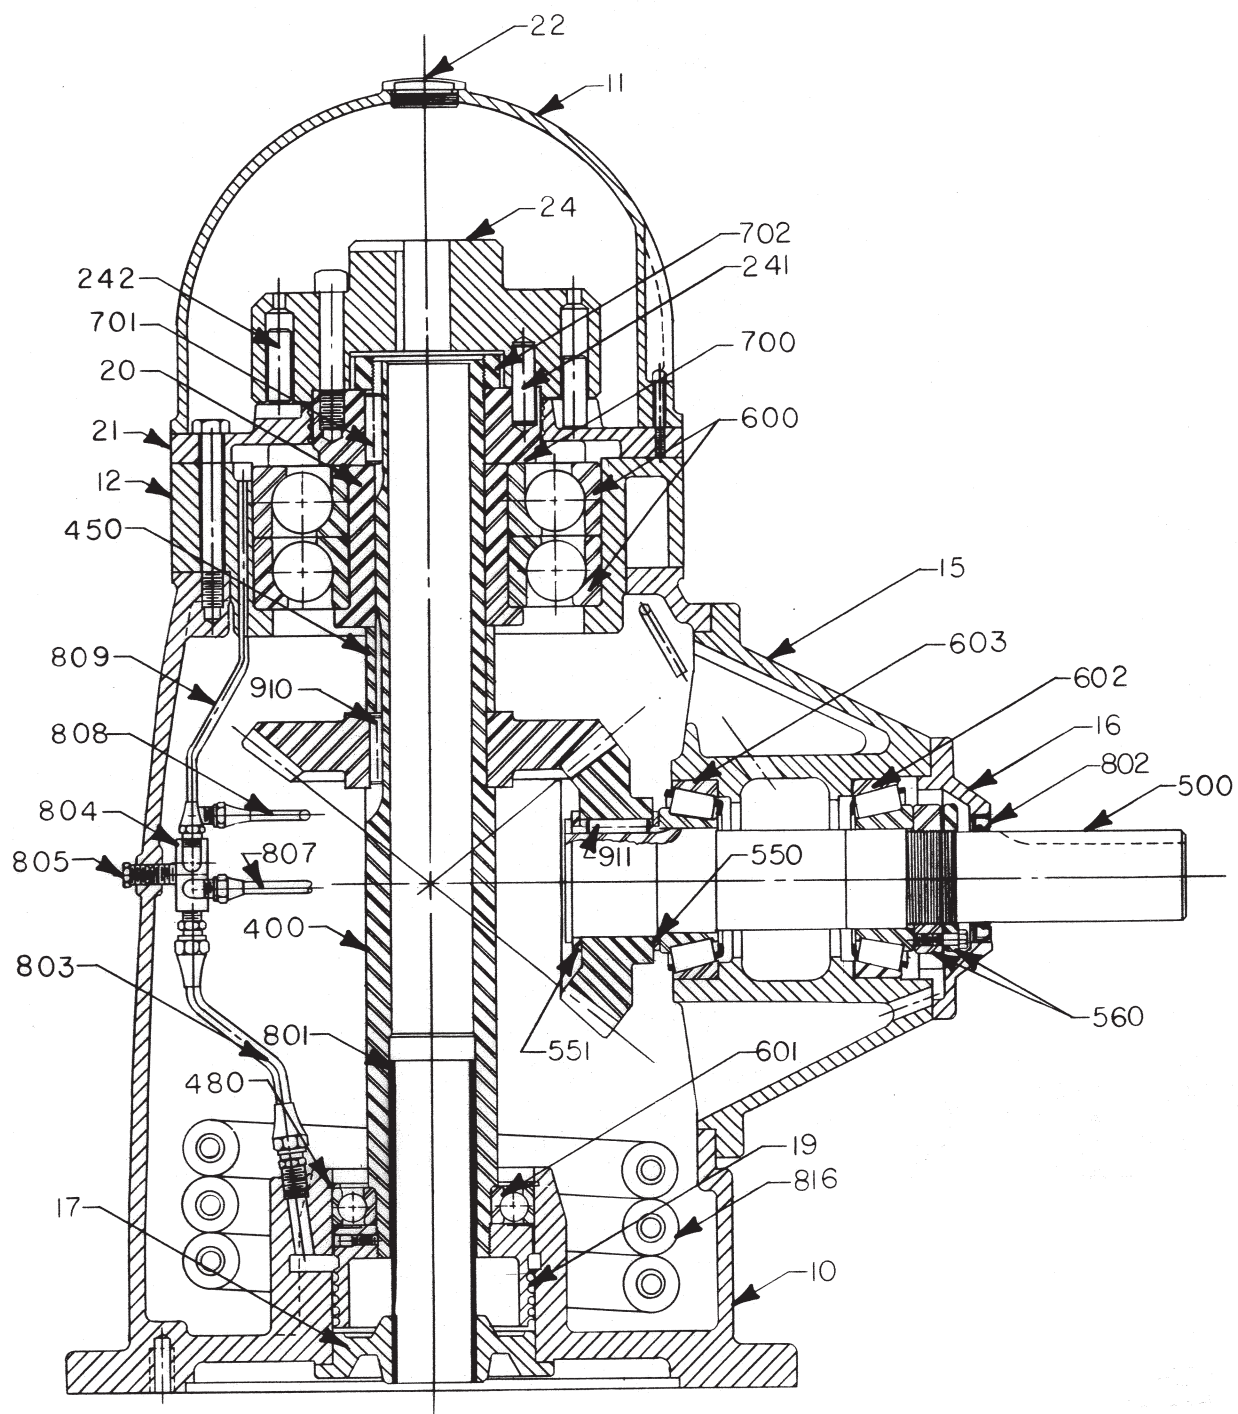

Figure 4
- 1.10 Some SL Models using opposed thrust bearings (see Figure 4), will have bolts and washers that retain the thrust bearings (600). If present, remove the bolts and washers.